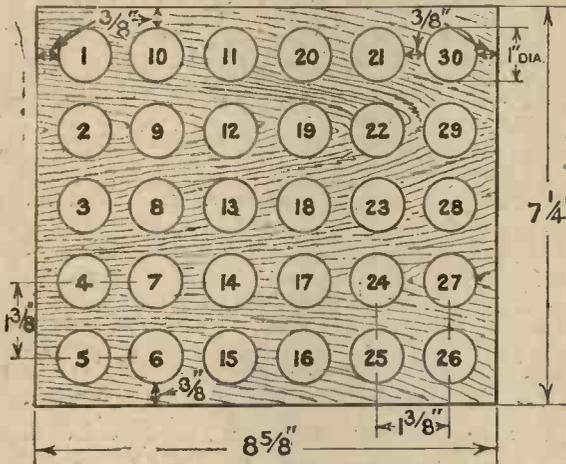

Fig. 3.—Details of the lid of a battery box for 30 cells are shown above.
shown in Fig. 4. Wood $\frac{1}{4}$ in. thick should be employed, the best kind being teak; and in order to keep the glass containers in position, a top for the box must be made in the form indicated in Fig. 3. The rectangular piece of wood has the dimensions $8\frac{1}{2}$ in. by $7\frac{1}{4}$ in. by $\frac{1}{4}$ in., so that it can just fit inside the box, being finally held in position by wood screws. The layout of the holes, which must be carefully drilled, gives the unit a symmetrical appearance. The diameter of the holes is given as 1 in., but this can be slightly
separator, the larger cylinder then fitting into the glass tube in the position marked (2) (see Fig. 3).
Repeat the same operation of adding separators and units similar to Fig. 2, following the numbers (1) to (30), as marked in Fig. 3. The negative plate of position (30) should be provided with a lead extension strip similar to the positive plate of position (1), by cutting away the A portion to add to the length B. Thus altogether 31 complete double